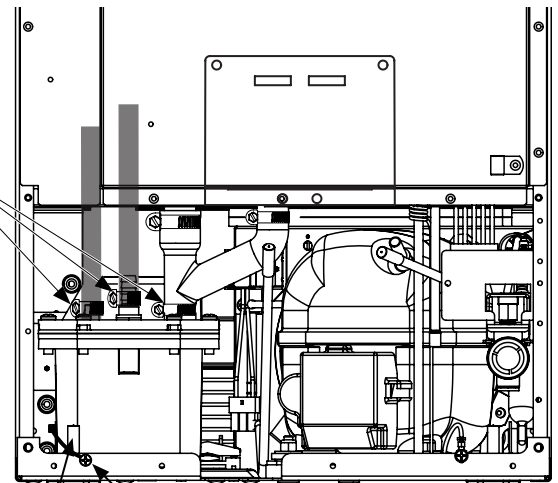
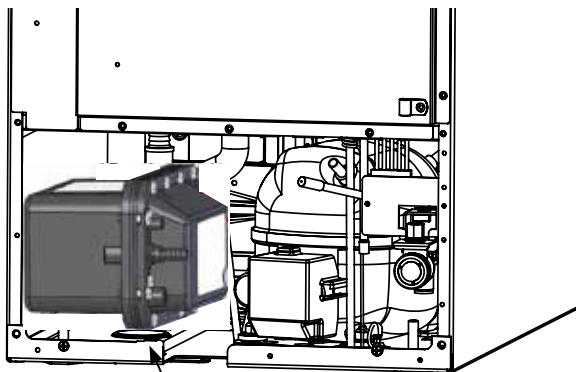

Figure 38
Figure 42
2. Remove the front panel and the toe grille from the front of the ice machine. See Figures 38 and 38a.
4. Unscrew the 3 hose clamps and remove the 3 hoses from the front of the drain pump. (See Figure 42).
5. Unscrew the leveling leg in the back corner until the end of the threaded portion is flush with the threaded nut insert in the base. (see Figure 38).
6. Rotate the drain pump and remove from the ice machine, (See Figure 42). It may be necessary to disconnect the ground wire connection in the back flange of the cabinet. (See Figure 38).